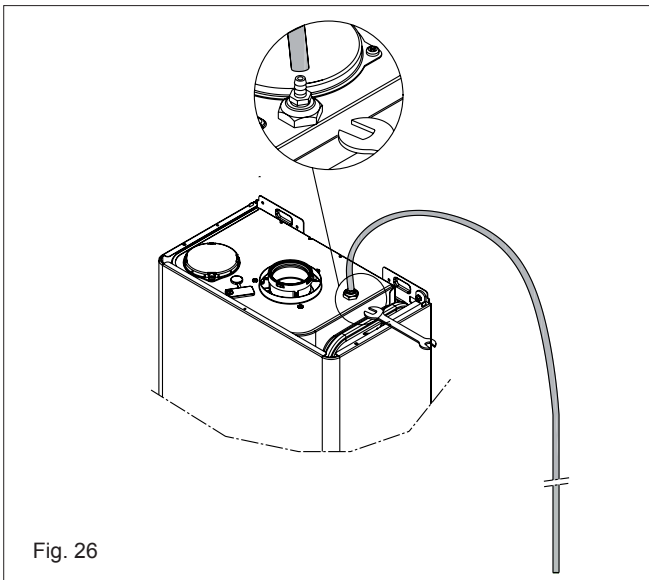

Fig. 26
5.3.1 MANUAL AIR RELEASE (fig. 26)